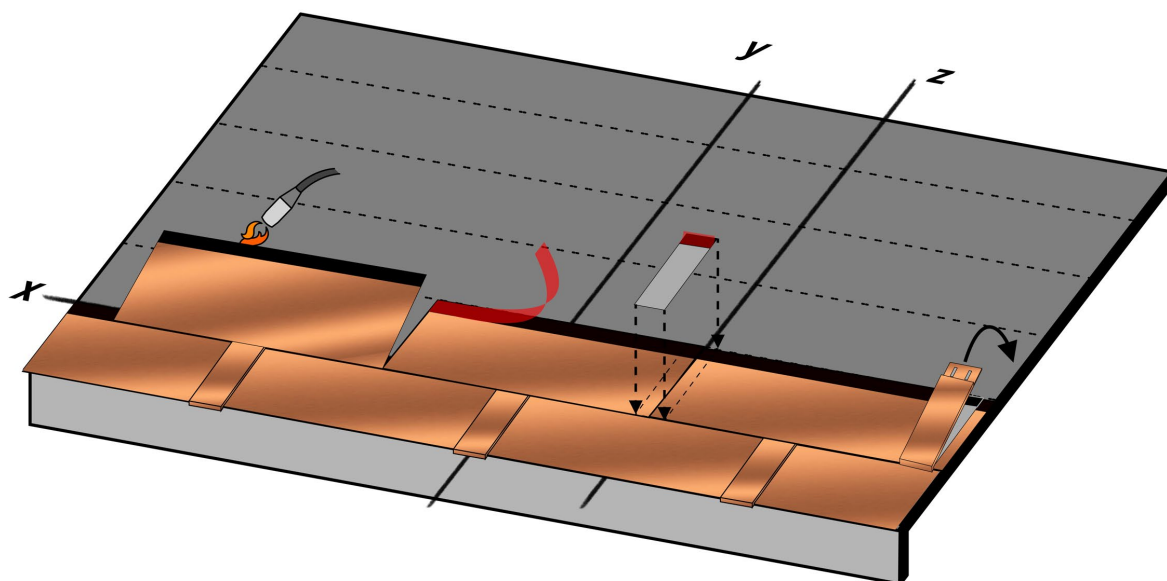

Fig. 22 - Second row shingles installation by torch
- Proceed with the installation of the first row of shingles: align the lateral edge of the first shingle on the vertical **z** and the upper edge on the horizontal 29 cm from **x** - see Fig. 22. Fix the shingle to the membrane using the torch and lifting the top of the shingle with a tool, Fig. 22. The self-adhesive upper strip of the starting row shingles will fix the shingles of the upper row. Move forward installing all the singles of the row.